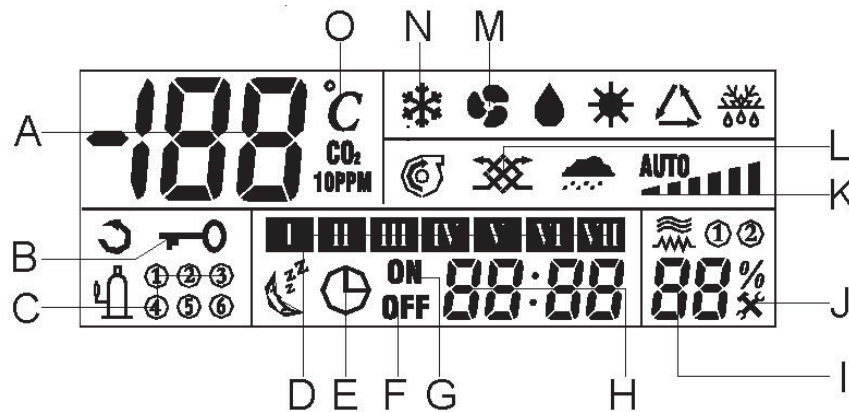

Figure 3
2.3 LCD Display Description Figure 3